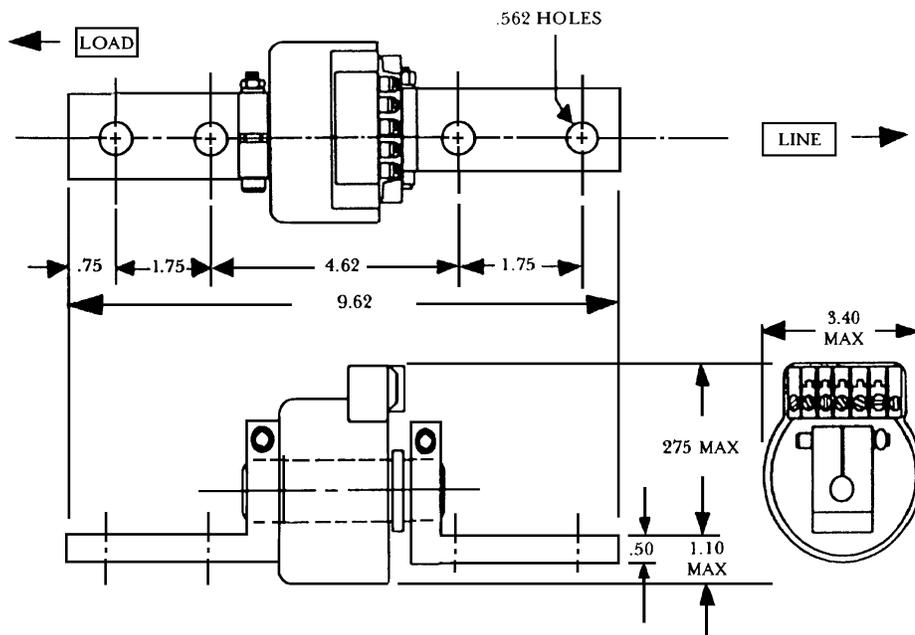

Figure 21. Neutral sensor outline.
1. Mount the neutral sensor on the outgoing neutral lead, normally in the bus or cable compartment in the equipment. Figure 21 shows the outline of the neutral sensor.